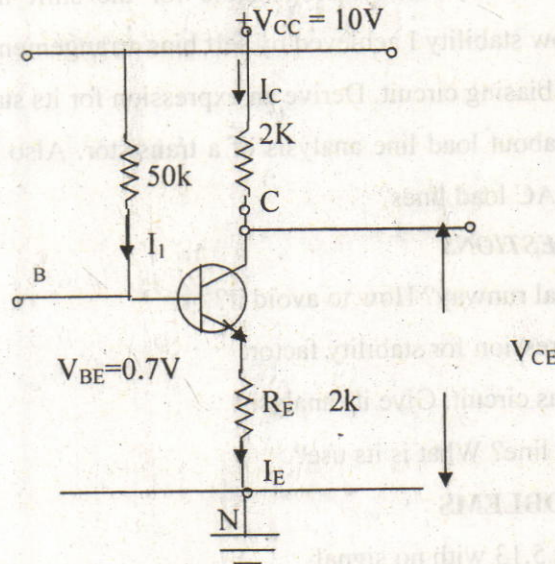

Fig 5.14
(2) Draw the DC load line for the following circuit in Fig.5.14